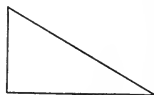

FIG. 24.
**54.** A **right-angled** triangle (Fig. 24) is any triangle having one right angle. The side opposite the right angle is called the **hypotenuse**. A right-angled triangle is now usually called a **right triangle**.